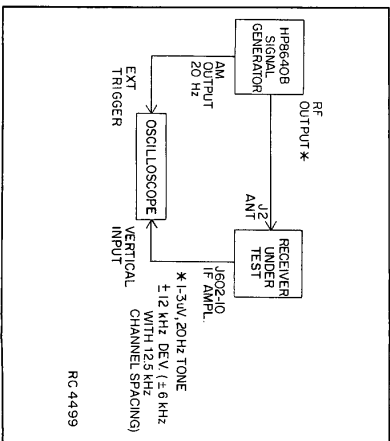

Figure 6 - Test Set-up, Audio Output Measurement
3. Using an HP8640B signal generator, set to an on-channel frequency, feed a 20 Hz modulating frequency with  $\pm 12$  kHz of deviation ( $\pm 6$  kHz for 12.5 kHz channel spacing) into the radio at antenna jack J2. (See Figure 6).